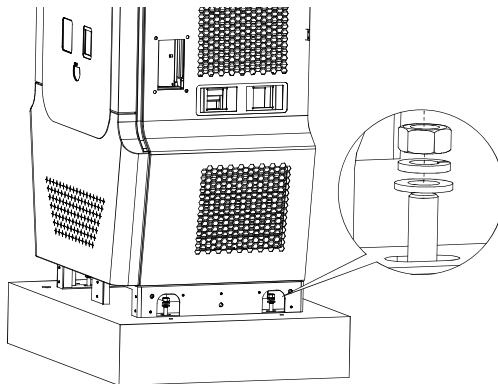

Figure 15. EVSE Attachment
3) Attach 4 washer and 4 nuts (2 each) to the 4 pcs of M 12 threaded rods. See figure 15.